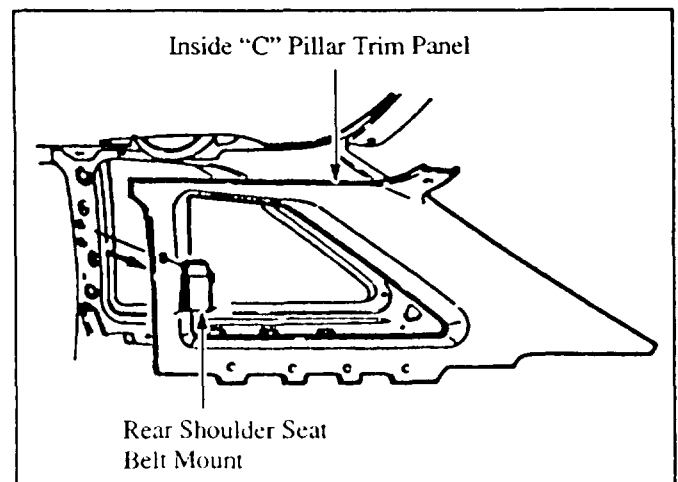

Figure 24: Removing Inside "C" Pillar Trim Panel
3. If necessary, remove the rear shoulder seat belt mounts and inside "C" pillar trim panel(s). Remove the mounting nuts. Next, remove the rear window glass side molding. **Figures 24 and 25.**